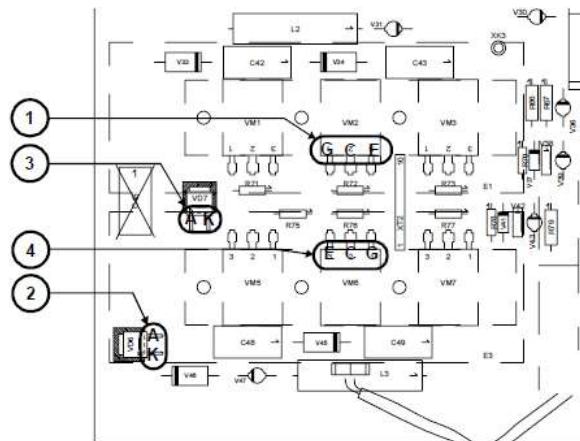

Fig.3
2. Electronic Inverter circuit (Fig.3): verify the following:
- IGBT of the primary circuit and diodes of recycle: test points G-C, G-E, C-E of components 1 and 2; points A-K of components 3 and 4 (Fig. 3); if there are short circuits in any of these components the board is broken.